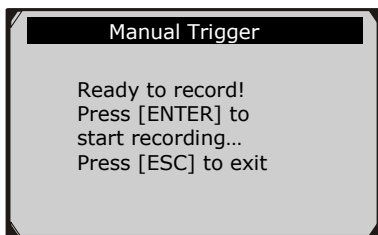

Figure 5.24
- If **Manual Trigger** is selected, following screen shows: (Figure 5.24)